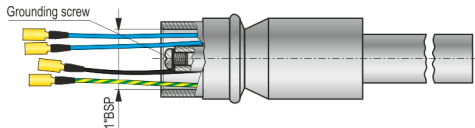

Figure 11
- Use the grounding screw terminal (see Figure11.) to ground the extension pipe. Caution! Life protection ground, 25 A class ground connection must be used.